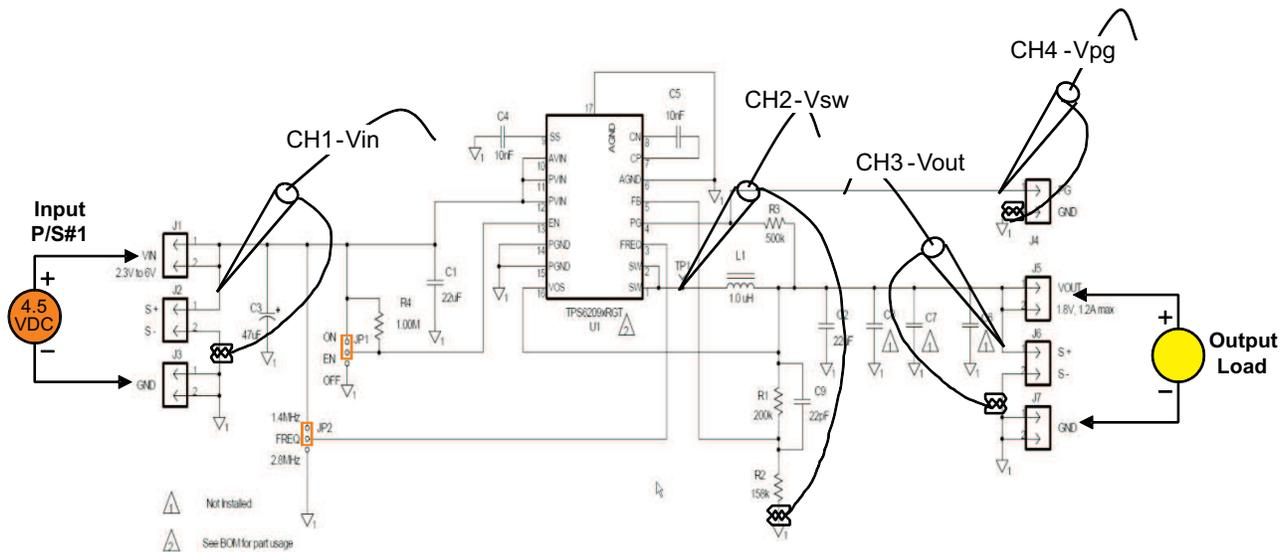

Figure 1. EVM Schematic and Evaluation Setup
Connect the meters, scope probes (see Figure 1), 2-Ω output load, shunt jumpers, and input power supply (Table 1); set the oscilloscope to 200 ns/div, positive trigger or HF trigger on CH2; CH1: ac-coupled, 50 mV/div; CH2: dc-coupled, 2 V/div; CH3: ac-coupled, 10 mV/div; CH4: dc-coupled, 10 V/div. Users can replace resistive load with system load or decade load box to vary load (2-Ω to 25-Ω load).
1. Set up the EVM is according to Table 1 and Figure 1, and preset the power supply to 4.5 Vdc at approximately 2.5-A current limit.